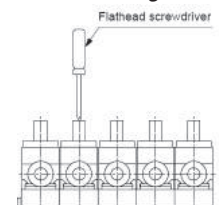

Figure1 Manifold piping with space-saving
13. It is a little difficult to turn the lever around by hand, being manifold piped with space-saving. Screwdriver should be used for turning around the upper lever "-". (Figure 1)